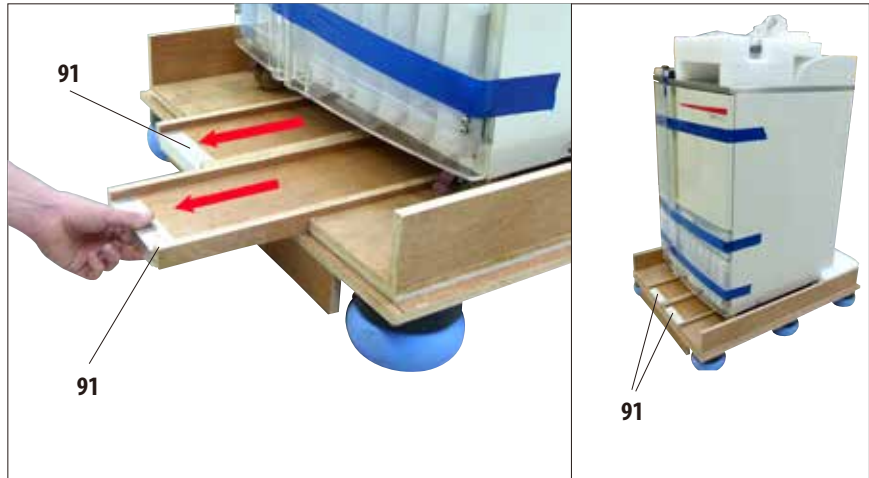

Fig. 8
- Pull out the two rails (91) for the ramp beneath the instrument by pulling them forwards (Fig. 8).